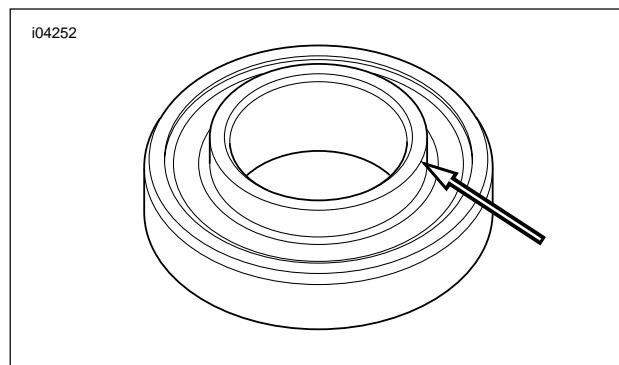

Figure 2-72. Steering Head Bearing Lip
- a. See Figure 2-72. Place the upper bearing squarely in the steering stem bore with the inner race lip pointing away from the steering head.